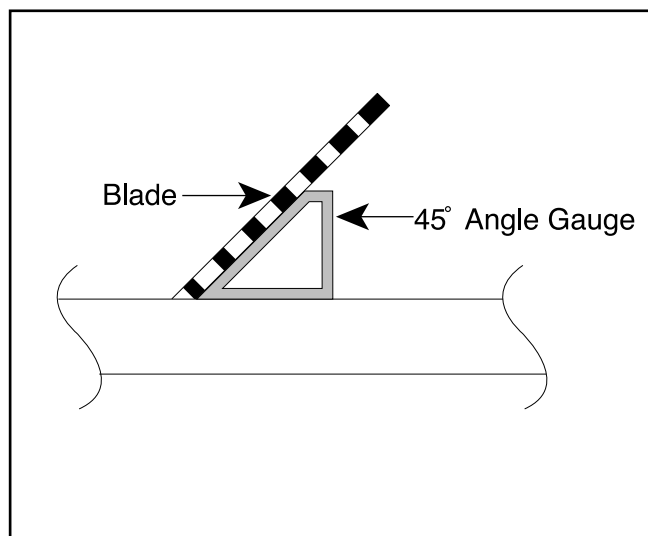

Figure 22.
2. Check the angle of the blade to the table with a high quality angle gauge. **Figure 22.** If the blade is 45° to the table, you are finished. If the blade is not exactly 45° to the table, proceed to the steps below.